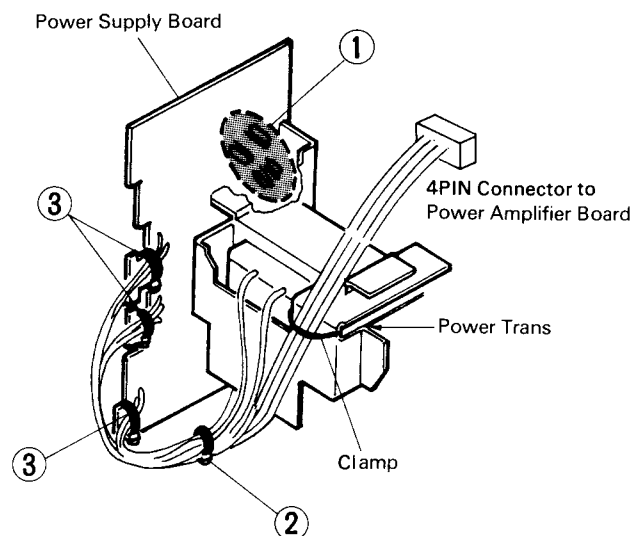

Fig. 1-1
1. Since diodes D901, D902, D903 and D904 are heating units, wires are arranged not to touch them as shown in Fig. 1-1 ①.
2. Check up wires connected to the power transformer, which must be bound together with as shown in Fig. 1-1 ②.
3. Check up that single wires coming from a P.C. board are bound together with at the collective root near the board as shown in Fig. 1-1 ③.